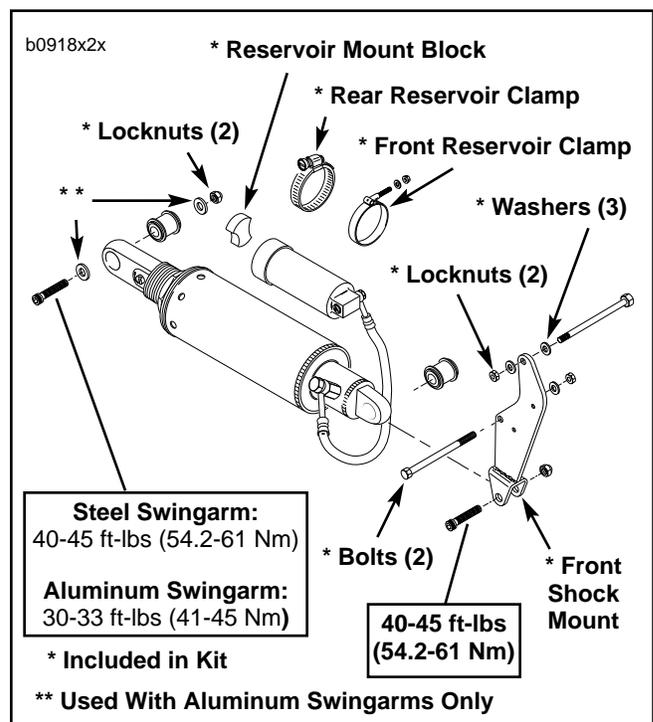

Figure 2. New Shock Absorber Assembly
5. See Figure 2. Use a flex socket and extension to remove locknut and washer from front reservoir clamp. Discard clamp, locknut and washer.
6. See Figure 2. Loosen rear reservoir clamp. Slide reservoir and mount block out of clamp. Remove and discard clamp and mount block.
1. See Figure 2. Install **new** front shock mount to crankcase with two **new** front shock mount bolts, washers, star washer (on 1997 M2, S3/S3T models only) and metal locknuts. Tighten bolts to 30-33 ft-lbs (41-45 Nm). NOTE: Top bolt goes in from left side, bottom bolt goes in from right side. The bottom bolt does not use a washer under the bolt head. Star washer (only used on 1997 M2, S3/S3T) goes on bottom bolt under the washer on the nut side. If exhaust was loosened during front shock mount removal, replace exhaust gaskets and reinstall exhaust. See appropriate Service Manual, Section 2 for instructions.
4. See Figure 2. Position **new** shock absorber from kit in mounting position.